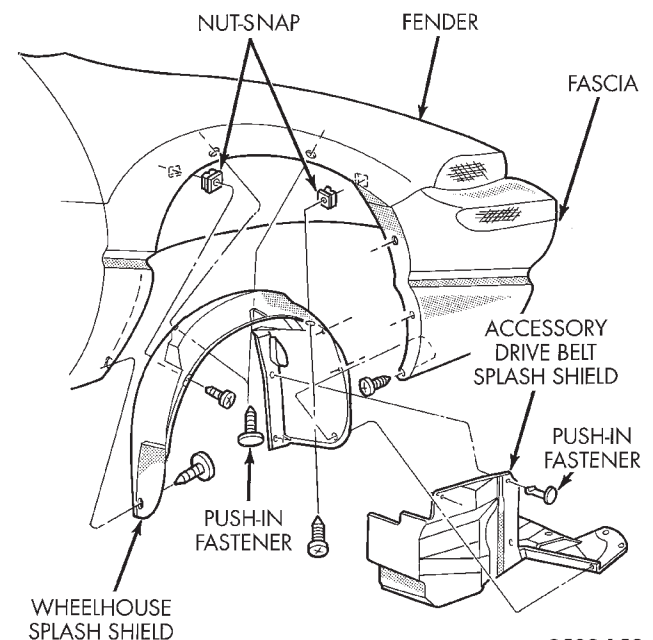

Fig. 49 Drive Belt Splash Shield
(1) Remove drive belt splash shield (Fig. 49).